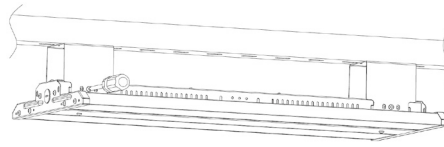

Figure 6
3. Choose a suitable wiring knock out and connect power conductors as per local codes. (Fig. 6/7)